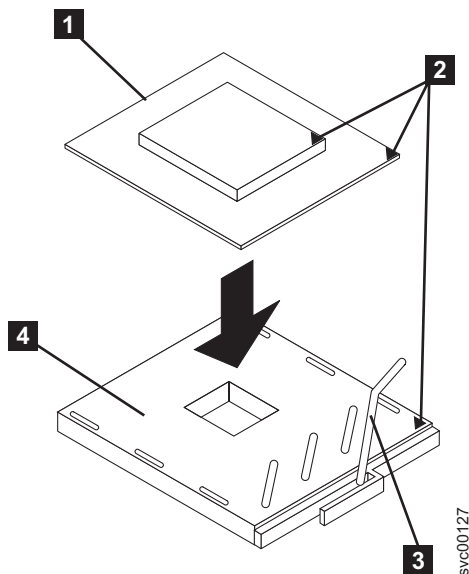

Figure 186. Microprocessor locking lever in open position
3. Rotate the locking lever 3 from the closed position to the open position. See Figure 186.